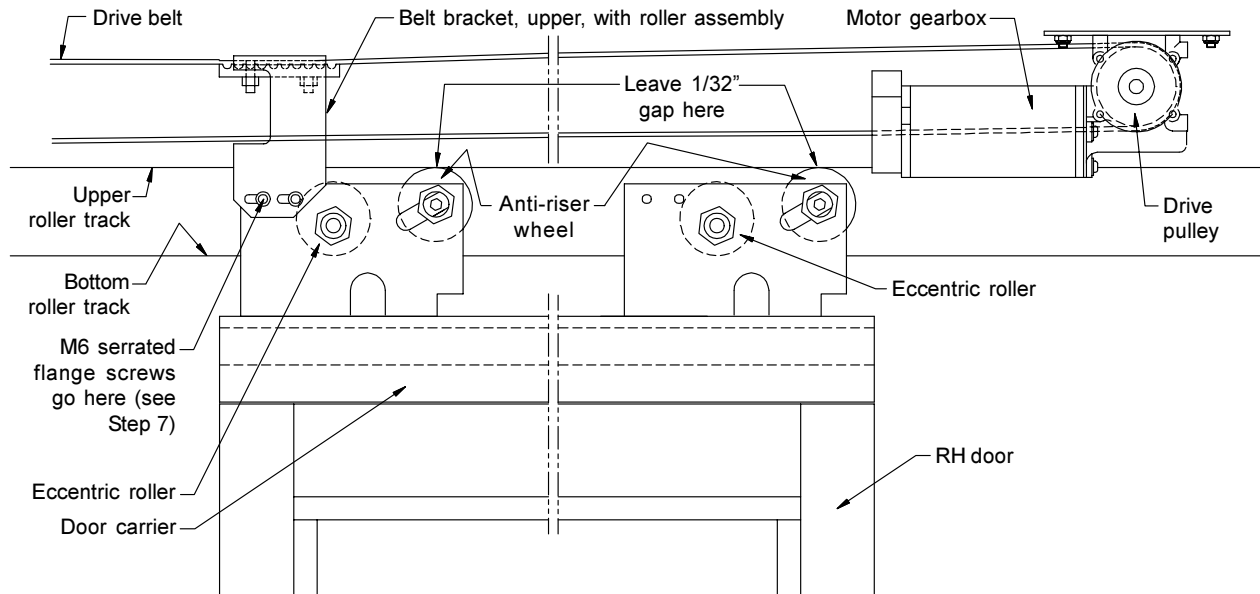

Figure 20. Anti-Riser Adjustment and Door (SX) Attachment Procedure
4. Use a 15/16" wrench to loosen the anti-riser wheel, then place it in the down position to allow access into the roller track. Hang the door, ensuring that the eccentric wheel contacts the bottom roller track surface (**Figure 20**).